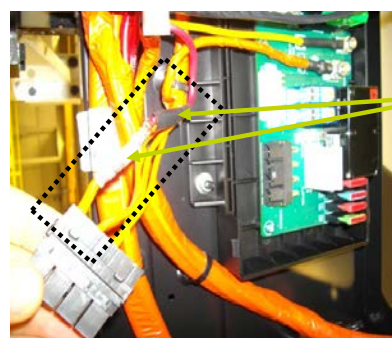

Fig.11
- Make a splice **(Rep 6)(Fig.11)** with the red wire using the connection sleeve and shrink sleeve.